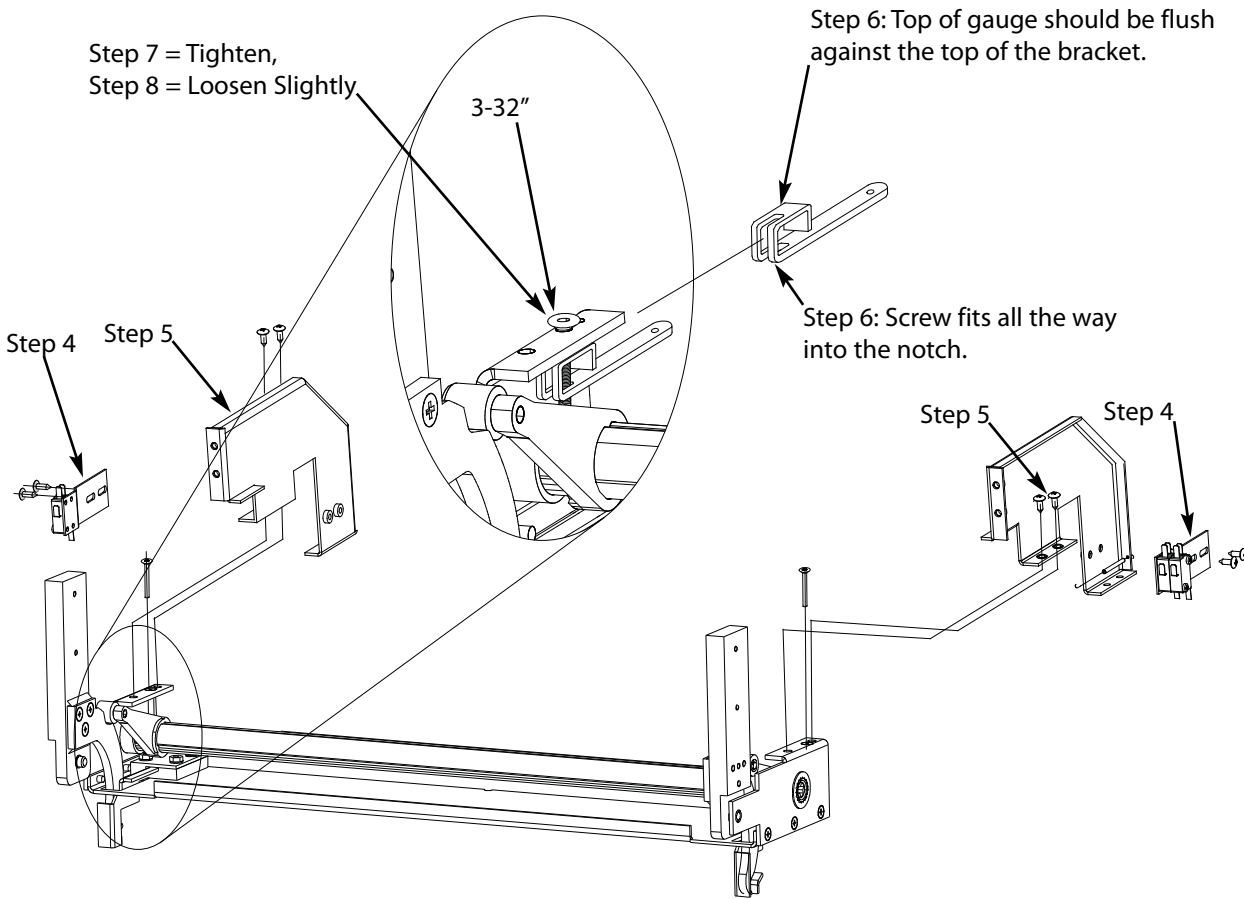

Figure 32: Counter Balance Adjustment
NOTE: In Figure 32, some oven components have been removed for clarity. The adjustment procedure must be performed with the counter-balance and hinges installed to the oven chassis.
6. Use adjustment tool P/N i5-9387 to check the distance between the bracket and counter-balance assembly (see Figure 32).